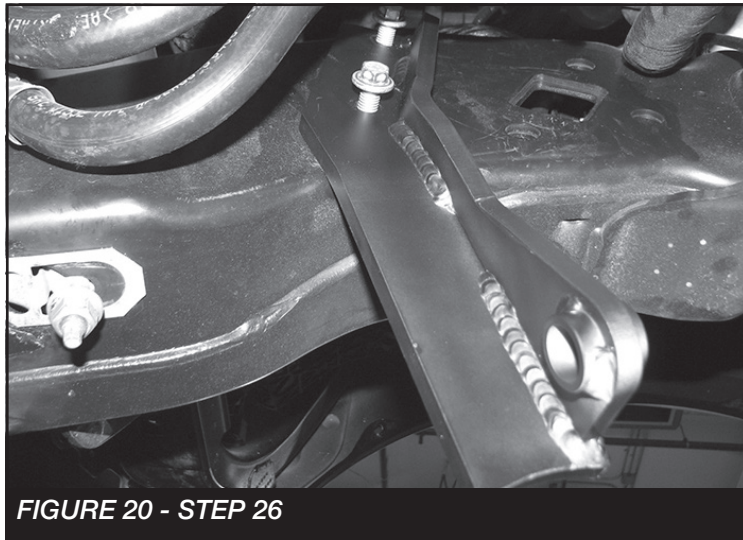

FIGURE 20 - STEP 26
26. Install FT30672 (steering stabilizer drop bracket) in the factory location using the factory hardware. Torque to 52 ft-lbs. **SEE FIGURE 20**